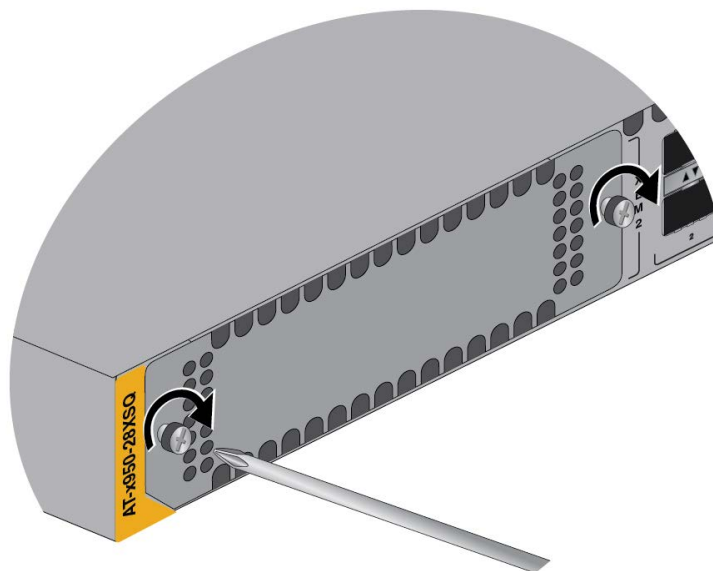

Figure 143. Tightening the Two Screws on the Line Card Blank Panel
10. Tighten the two screws to secure it to the switch. Refer to Figure 143.